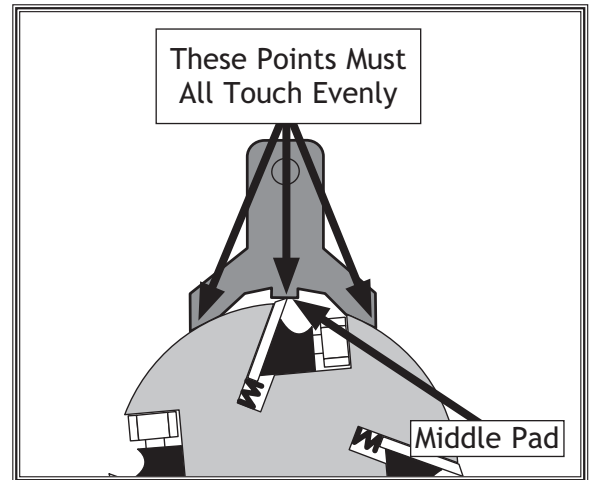

Figure 20. Gauge positioned over cutterhead knife.
3. Put on leather gloves and place a knife gauge on the cutterhead, directly over a knife, as shown in Figure 20.
6. Position the knife gauge over the knife as shown in **Figure 20**.